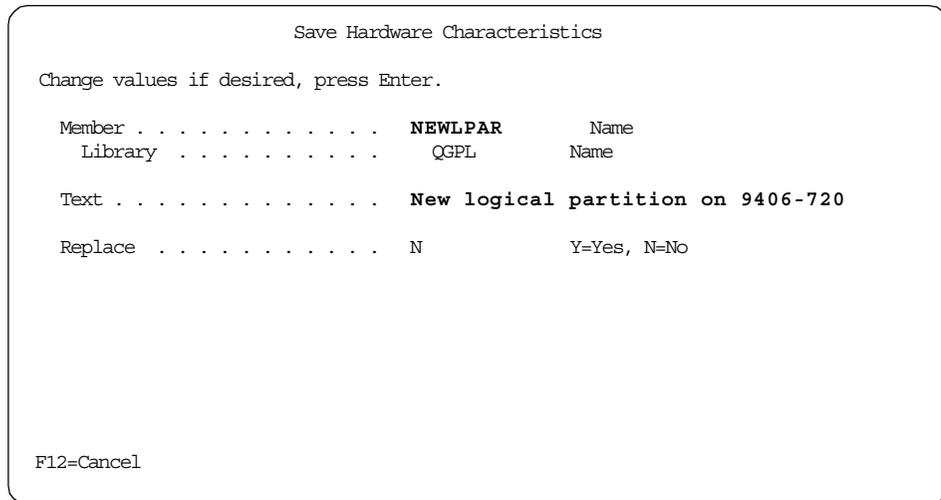

Figure 45. Save Hardware Characteristics — BEST/1
13. On the Save Hardware Characteristics screen (Figure 45 on page 106), enter a member name, (in our example, NEWLPAR). Leave the library name as QGPL. Press **Enter**.